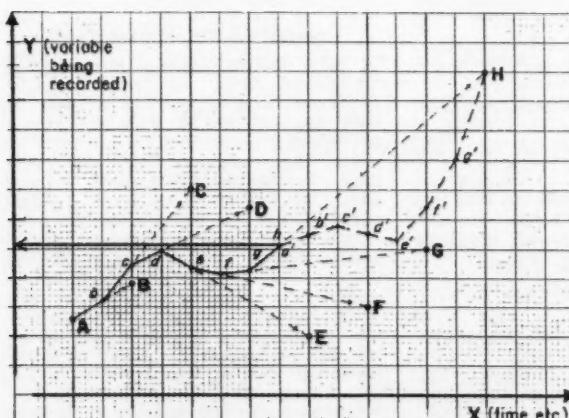

Fig. 1 Graphical determination of mean values
*Method.* As an example, take eight values recorded on ordinary rectangular graph paper at points *A*, *B*, *C* . . . *H* (Fig. 1). The technique will be seen to be the same no matter how small or how large the number of points. It is assumed that the horizontal spacing or "timing" between the points is uniform.
Although the simplicity of this method renders it relatively free from error, a brief check is readily available and should be performed. Start at *H*, and along *HG* draw *Hg'* (Fig. 1), then *g'f*, and so on until *a'* is reached. The point *a'* will coincide with *b* if no errors have been made.